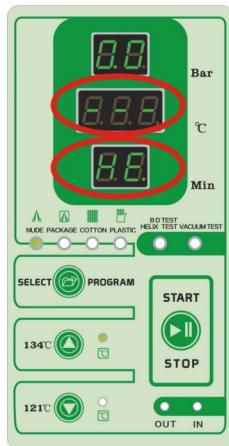

Fig. 7.4-1
(1) **Heating coil preheating stage:** press the button “Select program” select the program the instruments which need be sterilization. then press the button “START/STOP”, the “operation display window” show “HE”, the “pressure display window” show “-P”, the “temperature display window” show scrolling “---”. (Fig. 7.4-1)